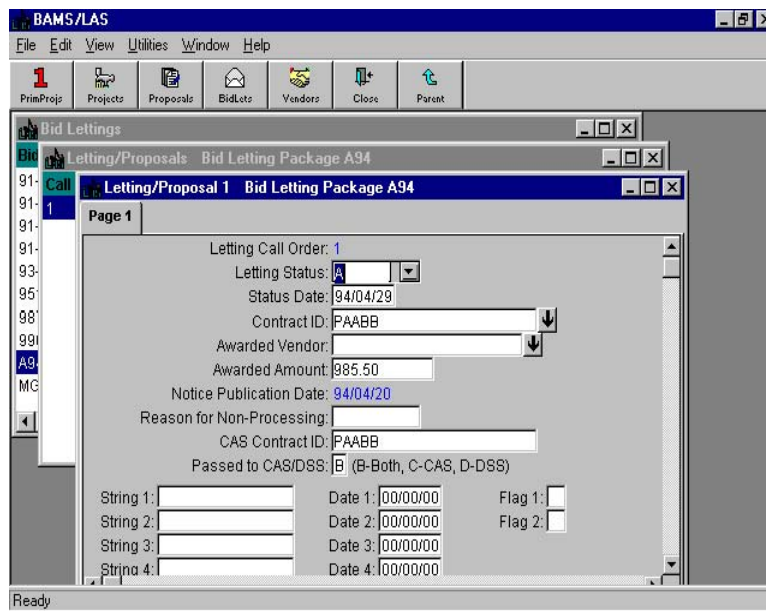

Figure 13-4. Letting/Proposal Window
2. The Passed to CAS/DSS field (in the Letting/Proposal window) must be blank (which means the proposal or contract has not been passed) or contain the letter C (which means the proposal or contract has previously been passed to Trns•port SiteManager via the SiteManager Contract Initialization process but has not been passed to Trns•port BAMS/DSS). After Trns•port completes the Pass Contract Data to DSS process, it changes a blank to a D (passed to BAMS/DSS) or a C to a B (passed to both CAS and BAMS/DSS) (see Figure 13-4).